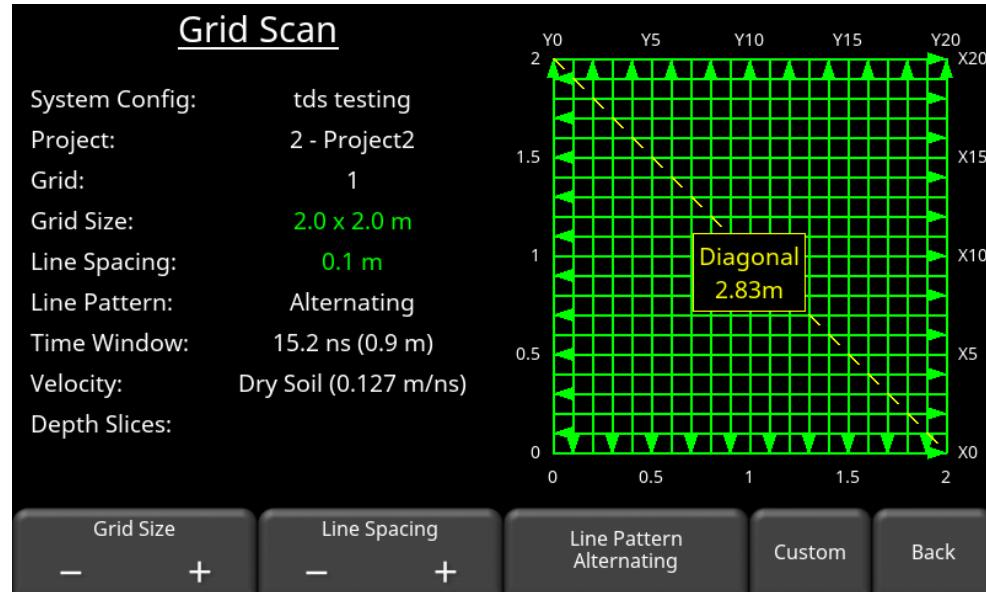

Figure 7-30: Forward/Reverse grid line collection
**Line Pattern** - Grid lines can be collected in one direction (Forward) or in a back and forth pattern (Alternating) (Figure 7-30). Collect lines in forward mode when possible to reduce errors due to a poor odometer calibration. Press the Line Pattern button to toggle between modes.